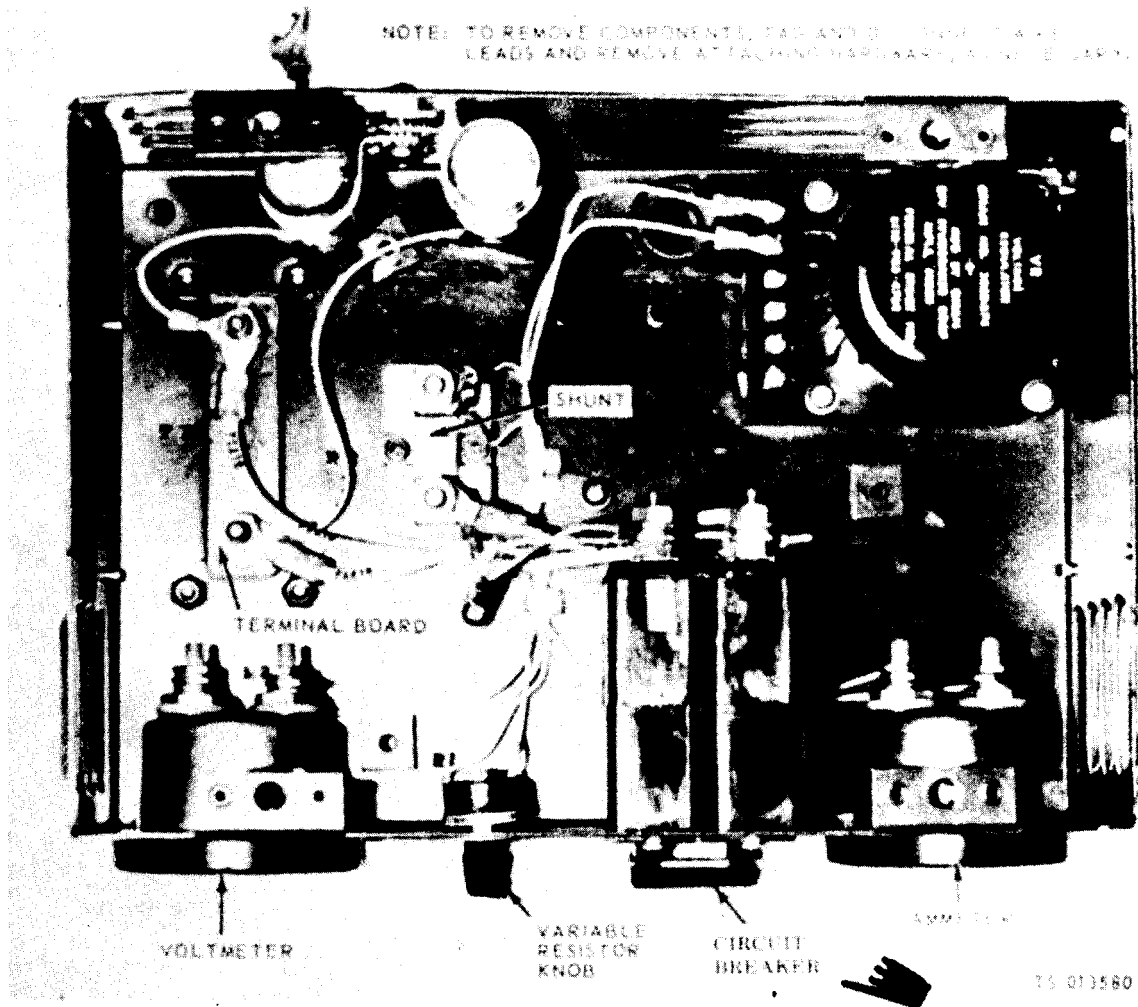

Figure 4-18. Control box components removal and installation (DC Unit).
b. Removal. Refer to figure 4-18 and remove the control box components.
- (1) Clean all parts thoroughly.
- (2) Inspect the variable resistor knob for cracks and stripped threads.
- (3) Inspect the voltmeter, loadmeter and ammeter for broken, missing, or cracked glass, signs of burning, water or moisture damage, stripped threads, and other damage.
- (4) Inspect the terminal boards and terminal load insulator for cracks and burned areas.
d. Installation. Refer to figure 4-18 and install the control boxes components.